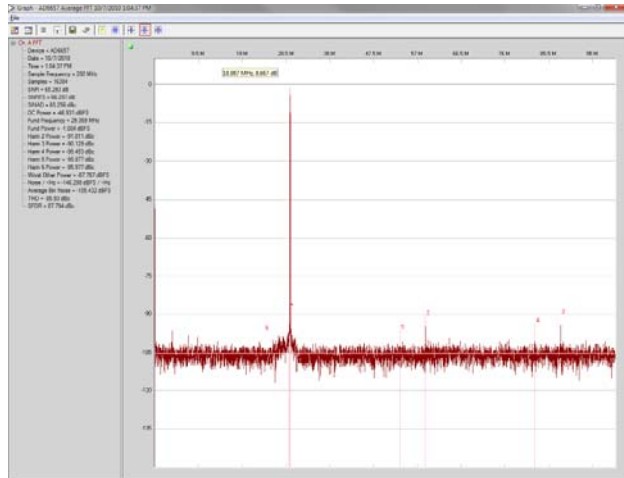

Figure 13. Graph – AD6657 Average FFT Window of VisualAnalog
1. Adjust the amplitude of the input signal so that the fundamental is at the desired level. (Examine the **Fund Power** reading in the left panel of the **Graph – AD6657 Average FFT** window; see Figure 13.)